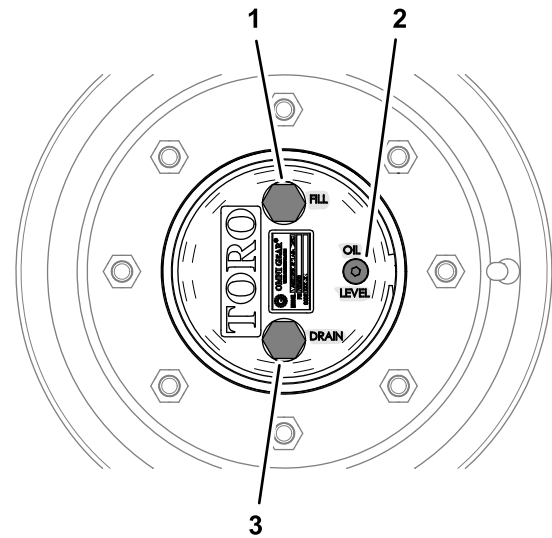

Figure 96
1. With the machine on a level surface, position a wheel so that the fill plug is at the highest (12 o'clock) position and the drain plug is at the lowest (6 o'clock) position (Figure 96).
1. With the machine on a level surface, position a wheel so that the fill plug is at the highest (12 o'clock) position and the drain plug is at the lowest (6 o'clock) position; refer to Figure 96 in Checking the Planetary-Gear-Drive Lubricant (page 69).